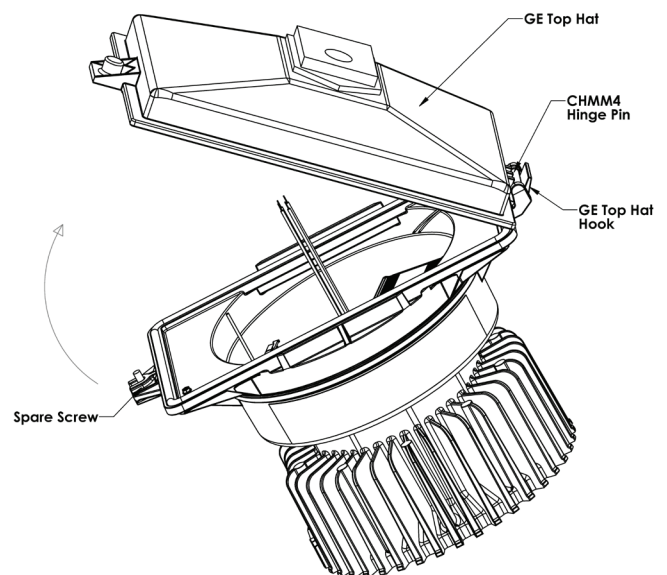

Figure 2
6. Hang the assembled luminaire and adapter from the GE top hat by capturing the adapter hinge pin in the GE top hat hook, as shown in Figure 2.